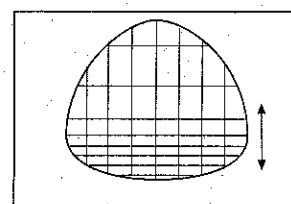

Fig. 7
- Adjust the vertical symmetry to obtain symmetrical scanning between upper and lower picture (fig. 7).